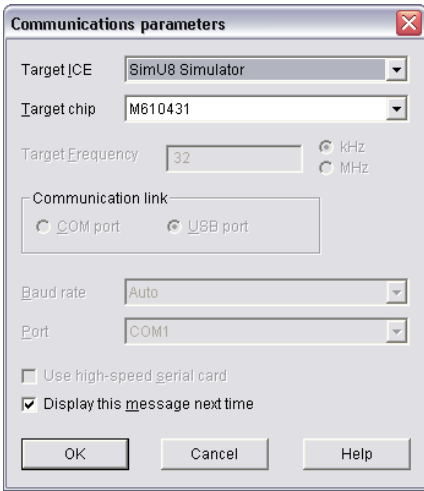

Figure 5.2_1 Dialog at DTU8 starting.
⑤ Press “OK” button.
⑥ Select the menu “Project” -> “Rebuild”.
- ① After the procedure ⑥ "Rebuild" in the section 5.1, select the menu "Project" -> "Debug".
- ② Select "SIMU8 Simulator" from the "Target ICE" list on the dialog shown Figure 5.2_1, and press "OK".
- ③ Select main.c and confirm the address that is indicated by the line in Figure 5.2_2. This address is used to set breakpoint later (④).